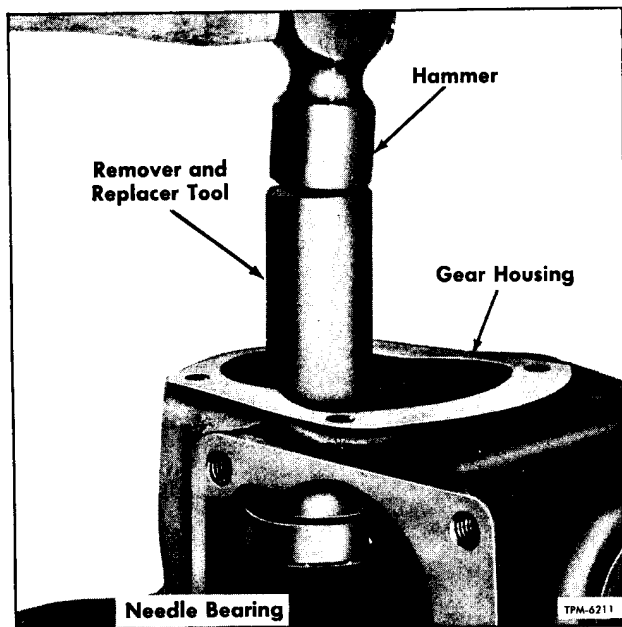

Figure 15—Removing or Installing Needle Bearing in Housing (Typical)
2. Press or drive needle bearings from steering gear housing, using remover and replacer tool (J-5529) (fig. 15).